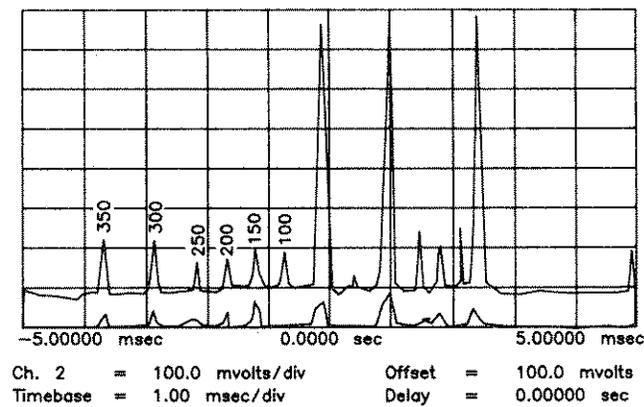

Figure 5-10b. Frequency Response of Notch Filters, 765 MHz Setting.
5. The oscilloscope display for nonadjusted Notch Filters is shown in Figure 5-10b.
6. Observe the oscilloscope Chan 2 display (beat notes) and refer to Figure 5-10b. Adjust A4L38 (100 MHz Notch Filter) until you see the 100 MHz beat note change on the display, then adjust the beat note for minimum amplitude.